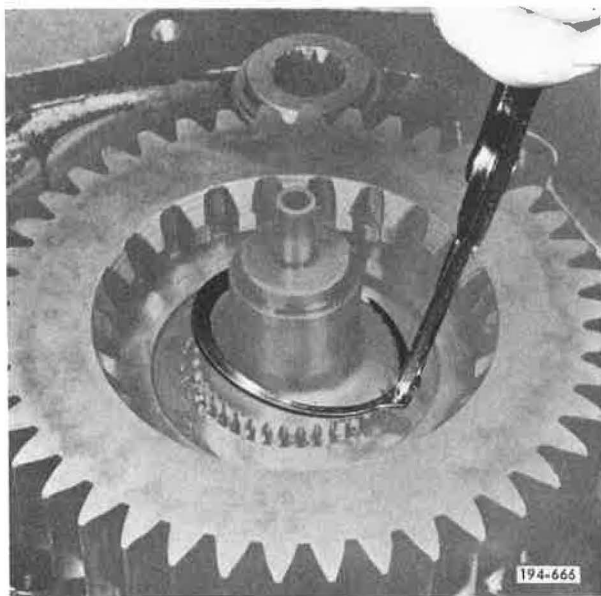

Figure 5-254. Removing Snap Ring
2. Remove mainshaft Lo-range main drive gear retaining snap ring, using snap ring pliers J-6435 or equivalent. See Figure 5-254.